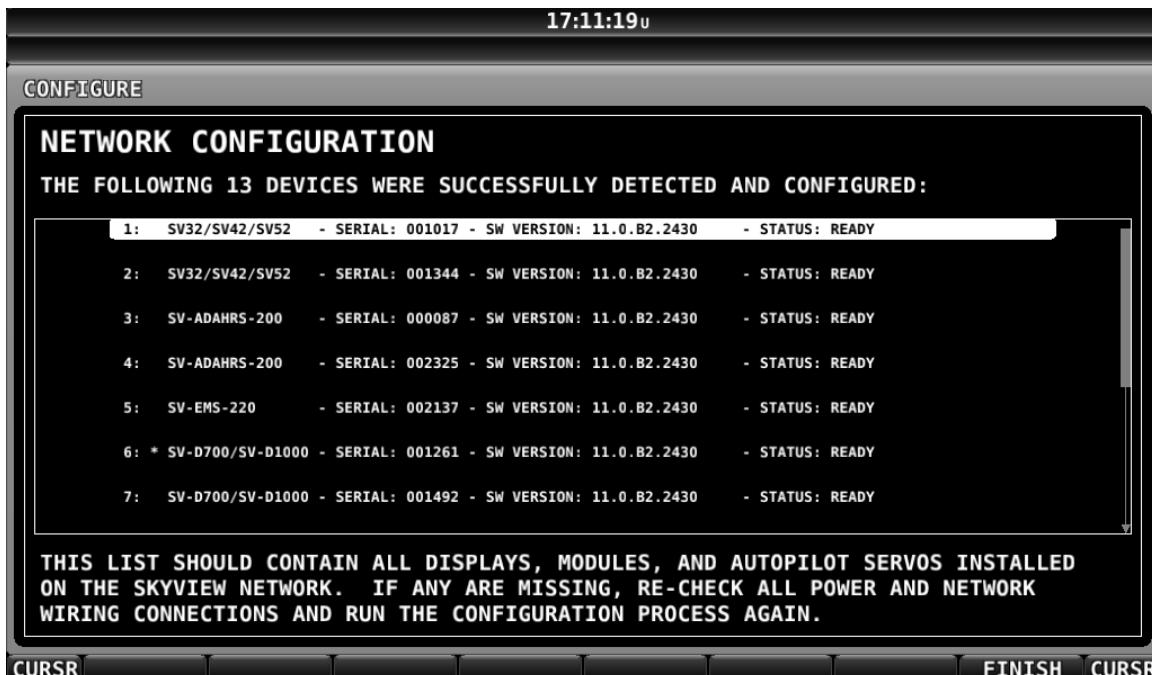

Figure 43: Successful SkyView Network Configuration Screen
3. *Press DETECT.* A successful network configuration yields the screen in Figure 43 (depending on the units installed, your SkyView system's network devices will look different and display different Software versions).